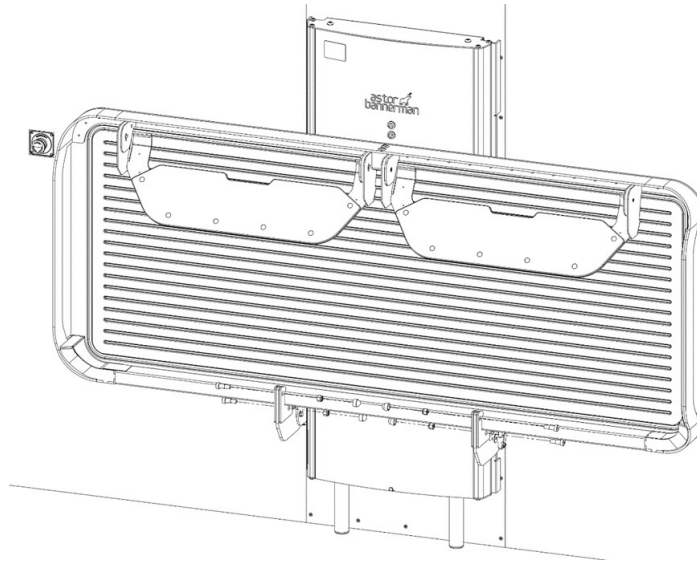

Fig 12.8c
- With two people, lift the stretcher vertically and slot the SBU arms in the middle of each stretcher brackets, see Fig 12.8c.